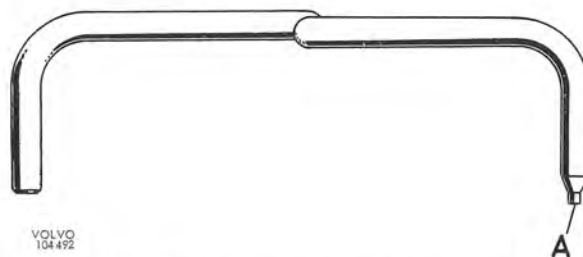

Fig. 4-122. Oil tube for valve bodies system, vehicle with B 30 E and F engines
27. Fit the four oil tubes according to Fig. 4-121. Note that the oil tube for releasing the front control cylinder has a construction (A, Fig. 4-122) on vehicles with B 30 E and B 30 F engine. This end is fitted in the valve bodies system.